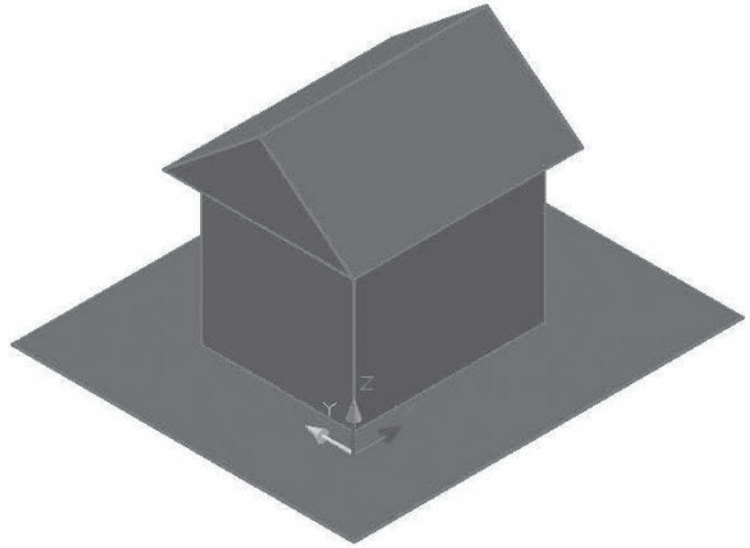

Fig. 40-5
- Open **prb40-1.dwg** and save it as **prb40-2.dwg**. Create a 3D face for a concrete pad under the shed. The pad measures **18' × 20'** and extends beyond the shed walls evenly (**5'**) on all sides. When you are finished, the model should look similar to the one in Fig. 40-5.